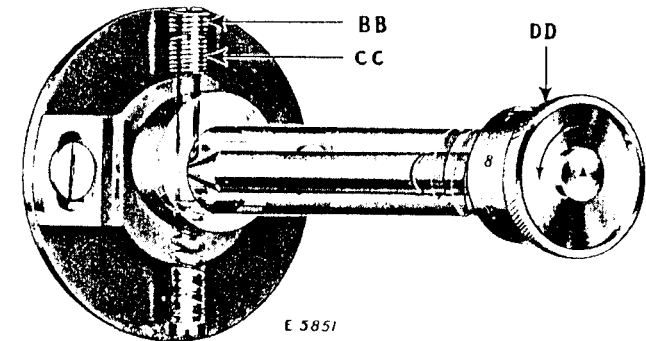

Fig. 21. "X-Ray" View of Feed Driving Eccentric
The figures on the feed regulating spindle head (DD, Fig. 21), showing through the notch in the balance wheel, indicate the num-
ber of stitches to the inch which should be made. If more or less stitches are made, adjust as follows: Remove the screw (BB, Fig. 21), set the indicator at 20 and the feed dog at its highest point, a full tooth showing above the throat plate, then adjust screw (CC, Fig. 21) until 20 stitches to the inch is the result and replace check screw (BB) firmly.
TO SET THE FEED REGULATOR SO THAT A STITCH LONGER THAN THE ONE DESIRED CANNOT BE MADE. Turn the spindle head (DD, Fig. 21) as far as possible in the direction indicated by the arrow in Fig. 21; remove check screw (BB) and adjust screw (CC) until the machine makes the desired number of stitches to the inch, then turn screw (BB) down tightly on screw (CC) as a check. The stitches may then be changed by turning the stitch regulator (DD) for shorter stitches, but operators cannot make a longer stitch than that limited by the above adjustment.